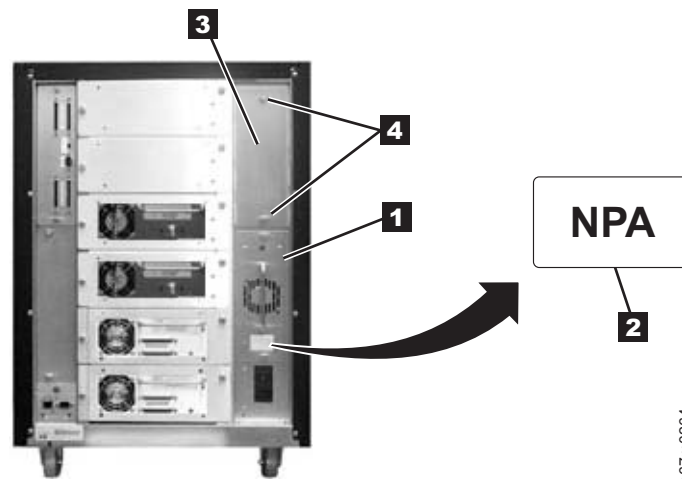

Figure 14-30. Installing a redundant dc power supply (illustration shows converted library)
1. Verify that the correct dc power supply is currently installed in the library by locating the dc power supply at the rear of the library (see **1** in Figure 14-30 and examining it for a label):